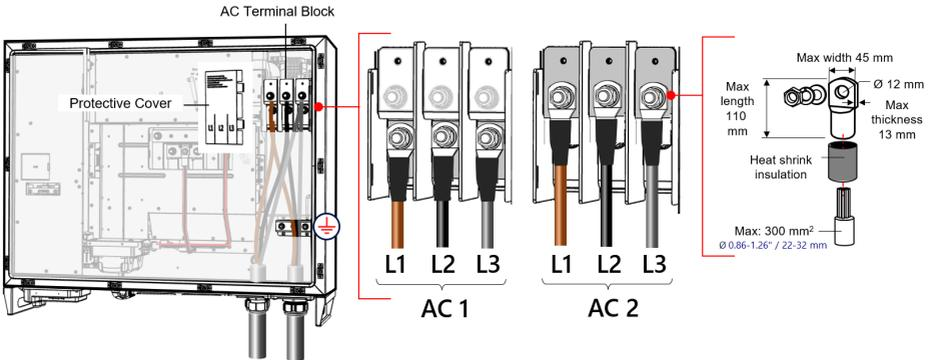

Figure 27: Connecting AC wires to the Inverter
10. Connect the L1, L2, L3 wires to the terminal block according to the labels on the terminals. Tighten the nuts to 34.98 N*m(see *Figure 27*).